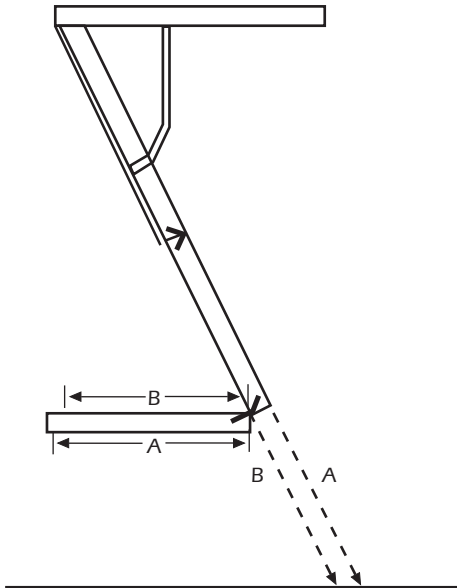

Fig. 7
Step 8- Fully extend the folding section of the stairway. Fold the bottom section of the stairway under the middle section, so that the top and middle sections form a straight line (See Fig. 7). Apply pressure on the stairs to ensure the spring arms are fully extended.
Step 9- Place a straight edge on top of the middle section and slide it down until it contacts the floor. Measure the distance from the end of the middle section to the floor (A in Fig. 7). Mark the distance on the A side of the bottom stringer.
Step 10- Place a straight edge on the bottom of the middle section and slide it down until it contacts the floor. Measure the distance from the end of the middle section to the floor (B in Fig. 7). Mark the distance on the B side of the bottom stringer. It is possible for the landing area to be uneven, so repeat this procedure on the other stringer.